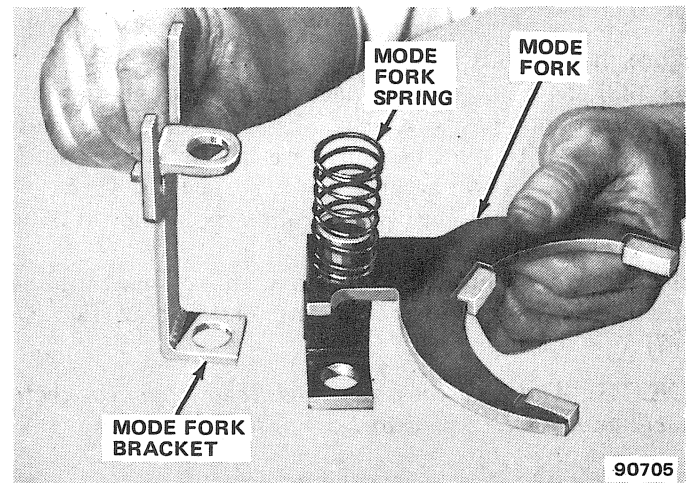

Fig. 2D-66 Assembling Mode Fork, Spring and Bracket
(25) Install side gear clutch on mainshaft with clutch gear teeth facing downward (fig. 2D-54). Be sure gear teeth mesh with clutch sleeve.
(26) Install remaining short mainshaft needle bearing spacer. Install spacer carefully to avoid displacing previously installed bearings.
(27) Install front output shaft front thrust bearing assembly in front case. Correct installation sequence is thick race-thrust bearing-thin race.
(28) Install front output shaft in front case (fig. 2D-55).